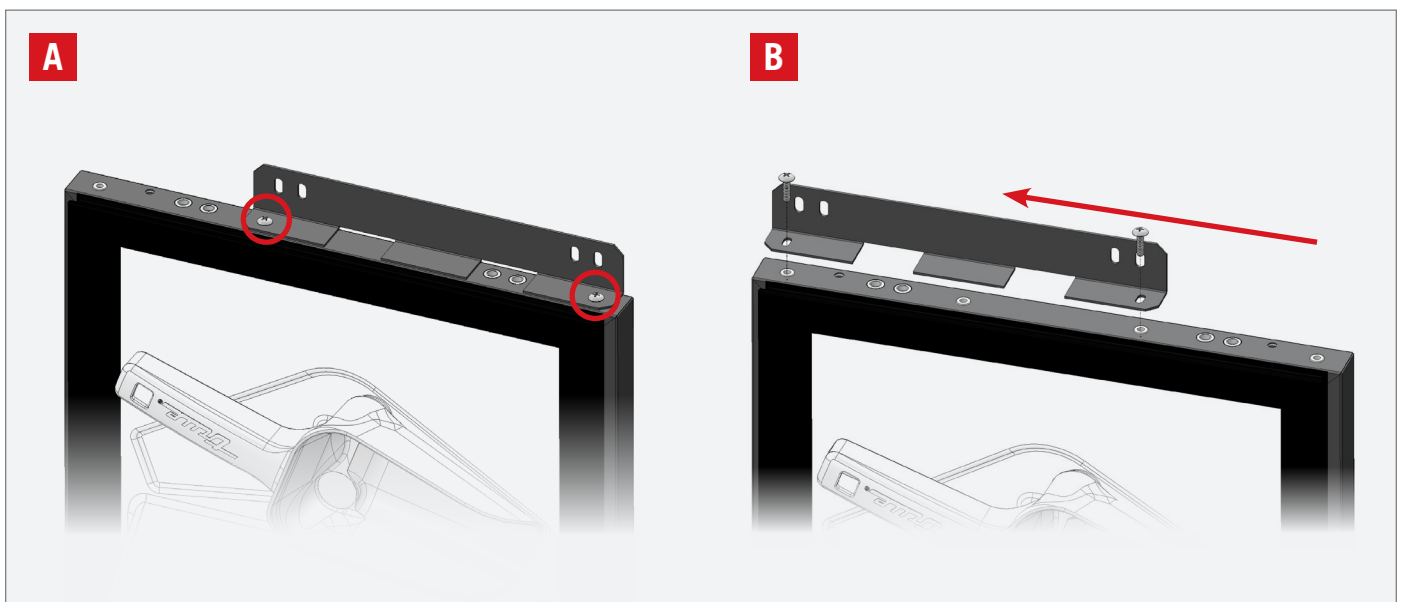

FIG. 5. Top Bracket shown.
6. Shift the door brackets to the opposite side. See fig. 5.